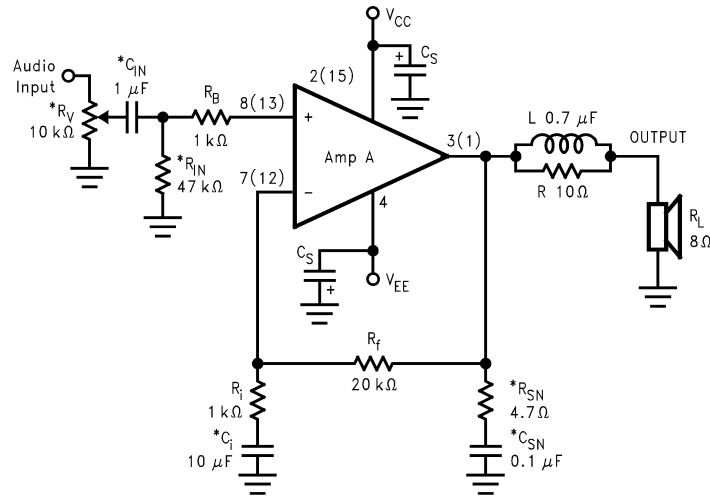

Figure 5. Special Audio Amplifier Application Circuit
7 $R_{IN}$ (1)	Sets the amplifier's input terminals DC bias point when $C_{IN}$ is present in the circuit. Also works with $C_{IN}$ to create a highpass filter at $f_C = 1/(2\pi R_{IN} C_{IN})$ . Refer to <a href="#">Figure 5</a> .
10 $C_{SN}$ (1)	Works with $R_{SN}$ to stabilize the output stage by creating a pole that reduces high frequency instabilities. The pole is set at $f_C = 1/(2\pi R_{SN} C_{SN})$ . Refer to <a href="#">Figure 5</a> .
11 $L$ (1)	Provides high impedance at high frequencies so that R may decouple a highly capacitive load and reduce the Q of the series resonant circuit. Also provides a low impedance at low frequencies to short out R and pass audio signals to the load. Refer to <a href="#">Figure 5</a> .